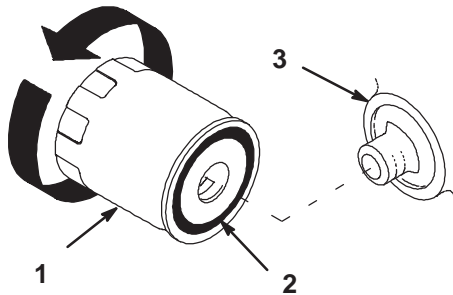

Figure 35
2. Remove the old filter and wipe the filter adapter (Fig. 35) gasket surface.
4. Apply a thin coat of new oil to the rubber gasket on the replacement filter (Fig. 35).
5. Install the replacement oil filter to the filter adapter. Turn the oil filter clockwise until the rubber gasket contacts the filter adapter, then tighten the filter an additional 1/2 turn (Fig. 35).